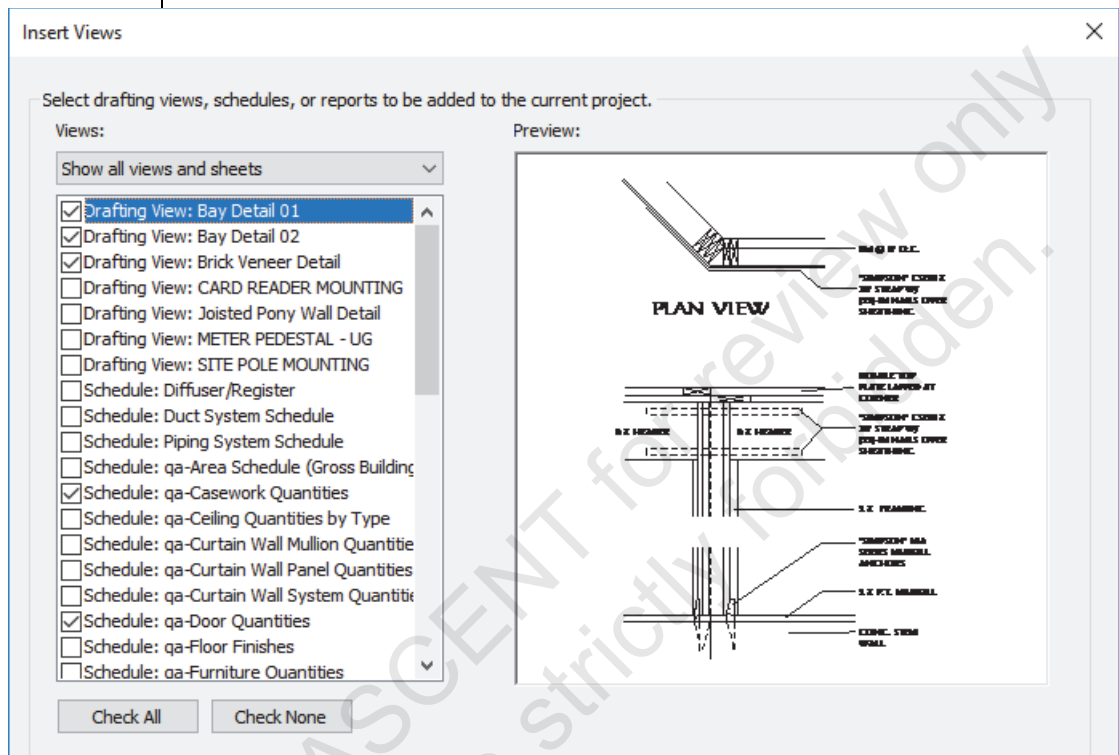

Figure 1–27
- Select one or two drafting views and one or two schedules from the list, as shown in Figure 1–27.